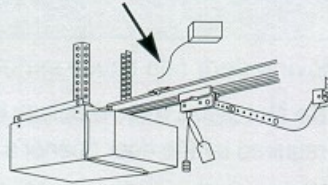

Figure 1-2
- **DISCONNECT** the existing external radio receiver from the garage door opener. (Figure 1-2)